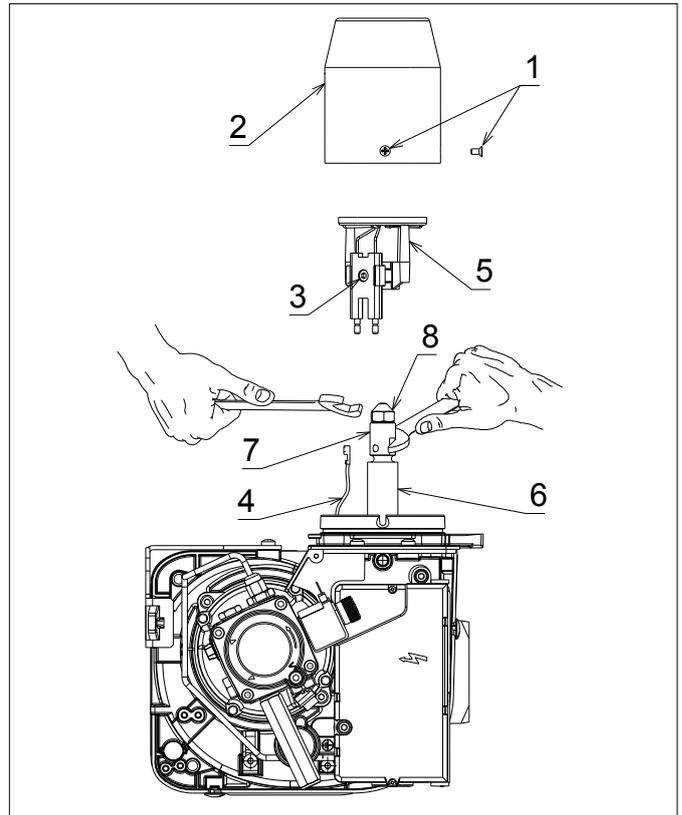

Figure 10-3: Burner head, diffuser and nozzle holder
1. Remove the burner head. Refer to Figure 10-3. Loosen the three fixing screws (1) and remove head (2) from burner.
3. If the nozzle needs to be replaced - remove the diffuser/electrode assembly. Refer to Figure 10-3.
- Using a 4 mm Allen key, loosen the diffuser fixing screw (3) on the electrode assembly.
- Lift diffuser/electrode assembly (5) up and off the nozzle holder.
- Disconnect both ignition leads (4) from the electrodes.
4. Use a 16 mm spanner to remove/re-fit the nozzle (8), whilst holding the nozzle holder (6) using a 19 mm spanner.
5. Re-fit the diffuser/electrode assembly. Refer to Figure 10-3.
- Reconnect ignition leads (4) to electrodes.
- Re-fit the diffuser/electrode assembly (5) onto the nozzle holder lining up the fixing screws with the recess in the nozzle holder.
- Tighten the fixing screw (3) to secure the diffuser/electrode assembly in place on the nozzle holder.
7. Re-fit the burner head. Refer to Figure 10-3.
- Locate the head fixing screws (1) in the countersunk slots in the burner collar.
- Tighten the three screws (1) to secure the head (2) in position on the burner.